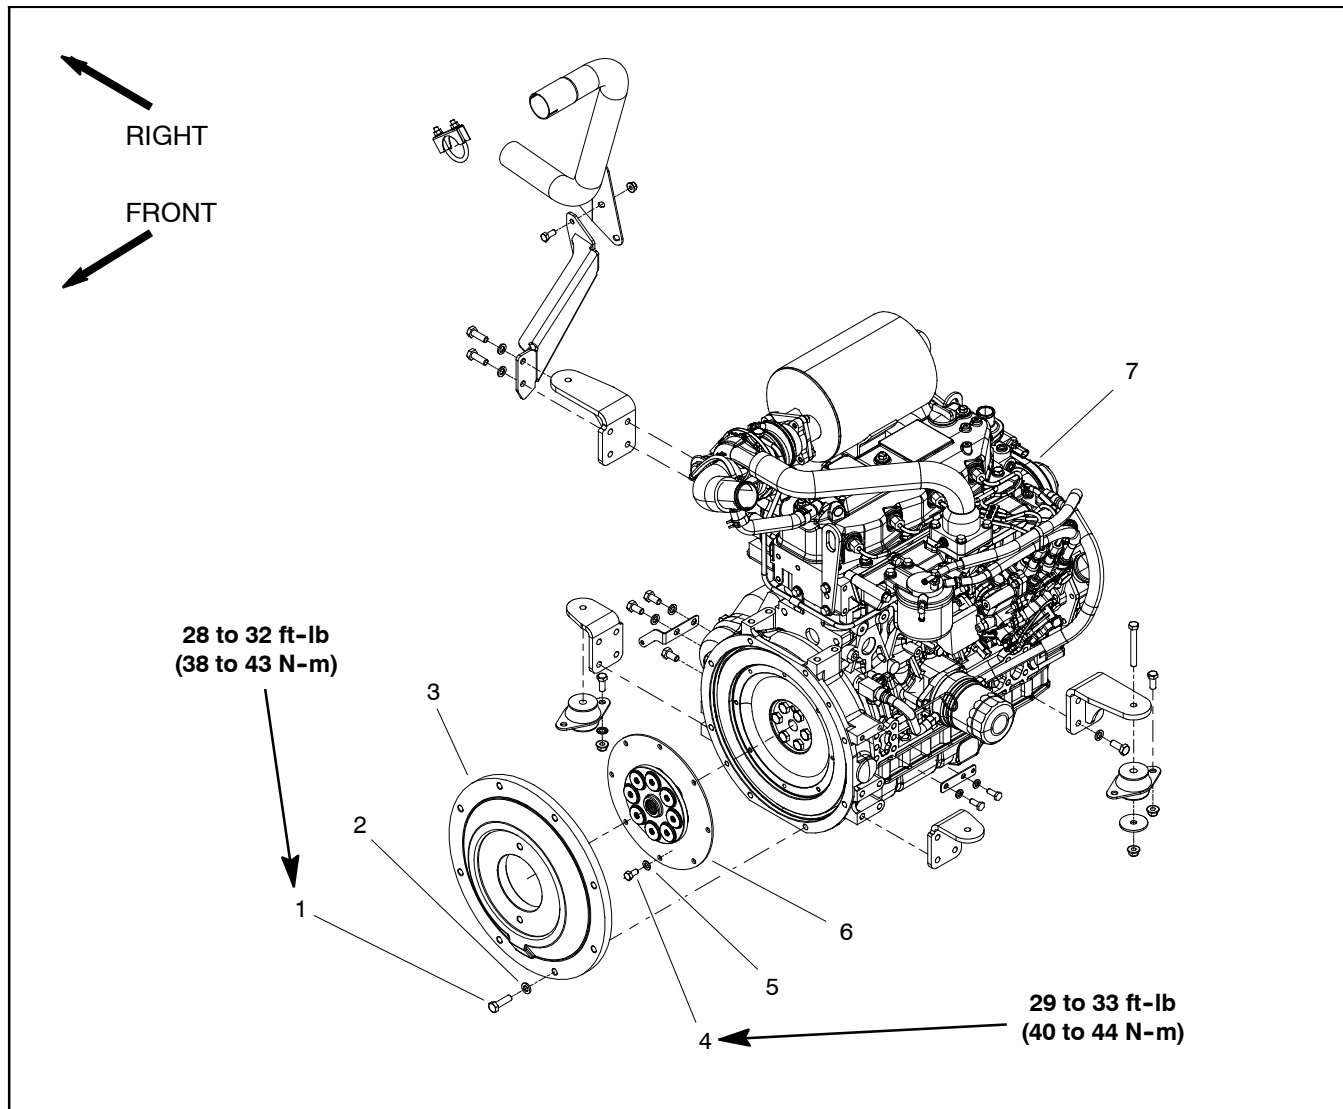

Figure 21
Coupler Removal (Fig. 21)
2. Remove flywheel plate and spring coupler from engine using Figure 21 as a guide.
Coupler Installation (Fig. 21)